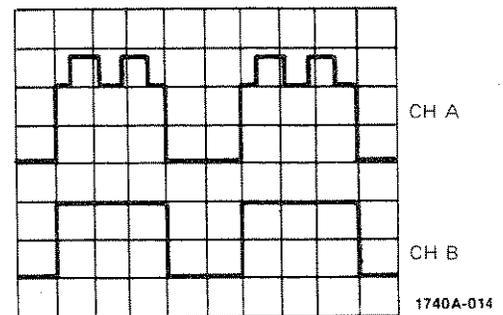

Figure 12a. Channel A With Desired Signal and Unwanted Components. Channel B With Only Unwanted Components.
**Example:** In figures 12a and 12b the common mode rejection method is illustrated.